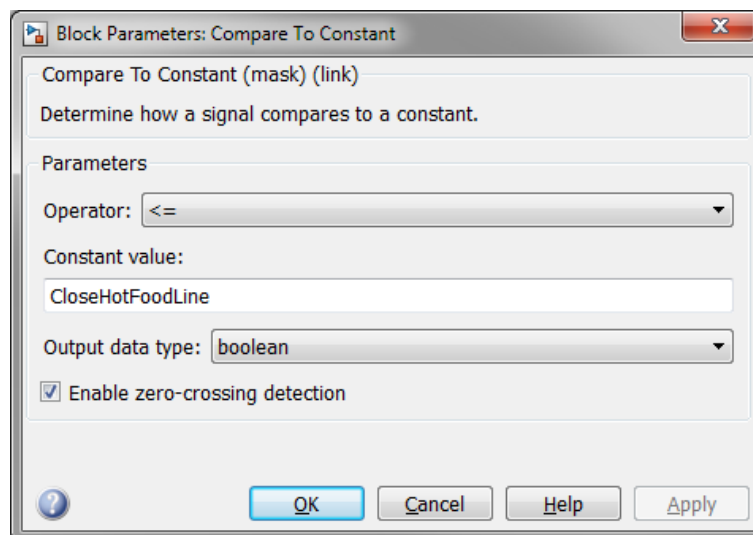

Figure 35: Parameterise the time that we close the hot food line
1. Double click on the Compare to Constant block that defines the time when we close the hot food line. Redefine the “Constant value” as ‘CloseHotFoodLine’ as shown in Figure 35.